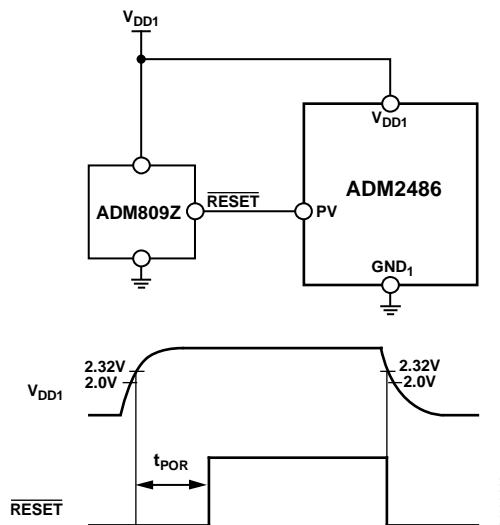

Figure 30. Driving PV with ADM809Z
To avoid chatter on the A and B outputs caused by slow power-up and power-down transients on V_{DD1} ($>100 \mu\text{s/V}$), the device features a power_valid (PV) digital input. This pin should be driven low until V_{DD1} exceeds 2.0 V. When V_{DD1} is greater than 2.0 V, this pin should be driven high. Conversely, upon power-down, PV should be driven low before V_{DD1} reaches 2.0 V (see Figure 30).